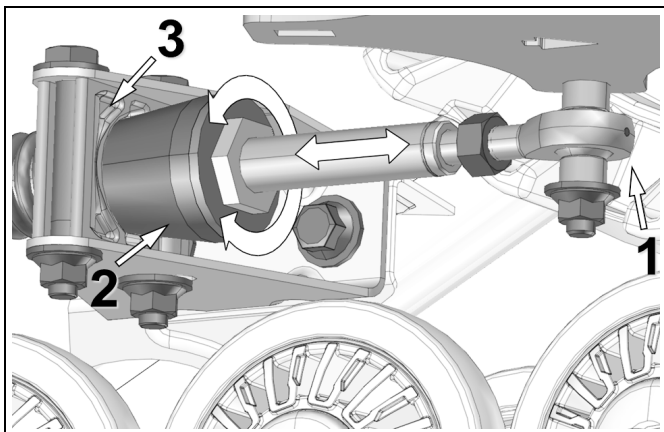

Figure 19
- Turn stabilizing arm nut to adjust length of rod end (1) so that rubber cone (2) applies light pressure on anti-rotation retainer (3). See Figure 19.